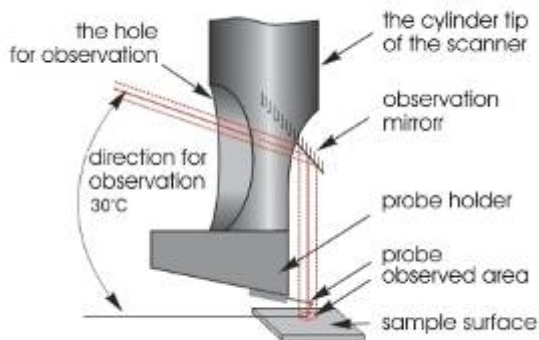
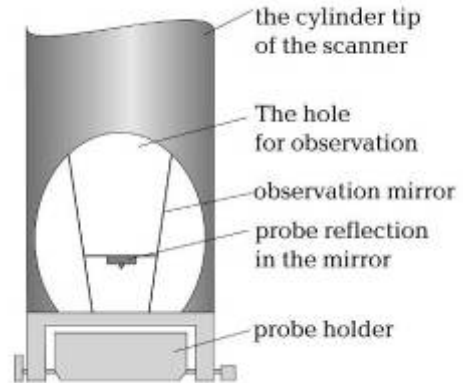

Fig. 2-83
Fig. 2-84
- The measuring head is equipped with a special mirror for viewing the cantilever and the studied sample. The mirror is attached to the measuring head base near the probe holder. Viewing is performed through an opening in the cylinder tip of the scanner at an angle of 30° to the horizontal plane (sample plane) (Fig. 2-83, Fig. 2-84);